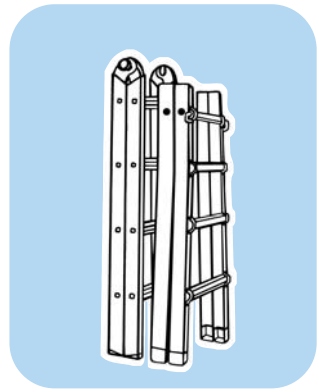

Figure F-1
1. Pull the inner ladder assembly completely out of the outer ladder bases (see figure F-1).